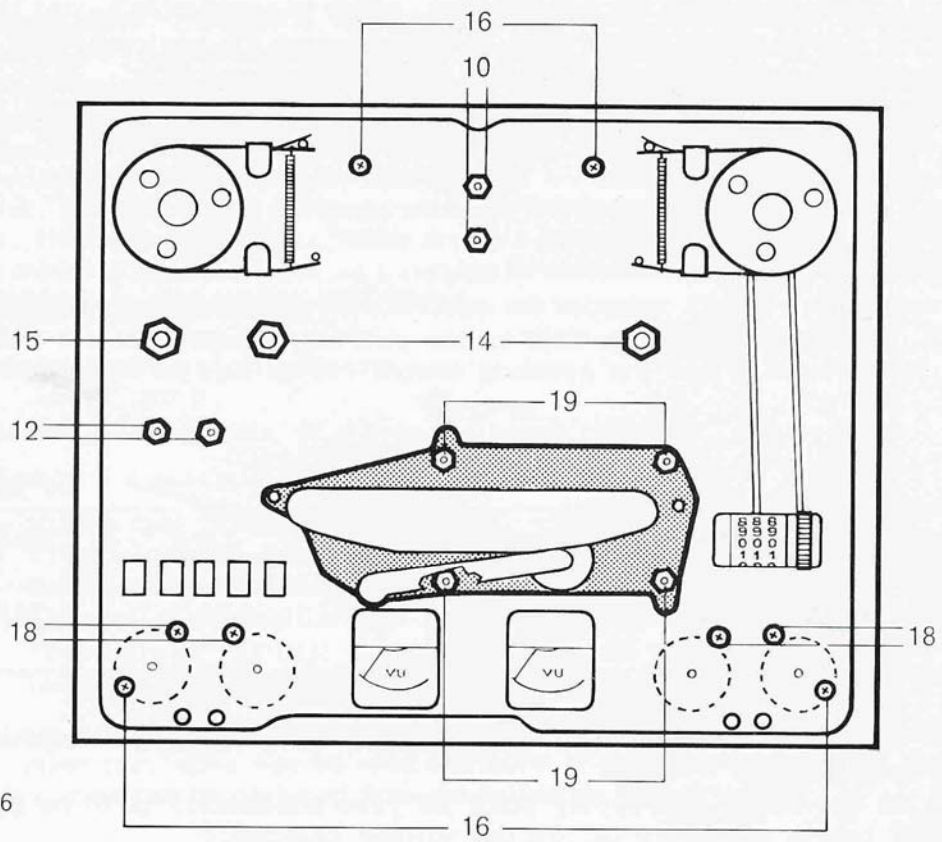
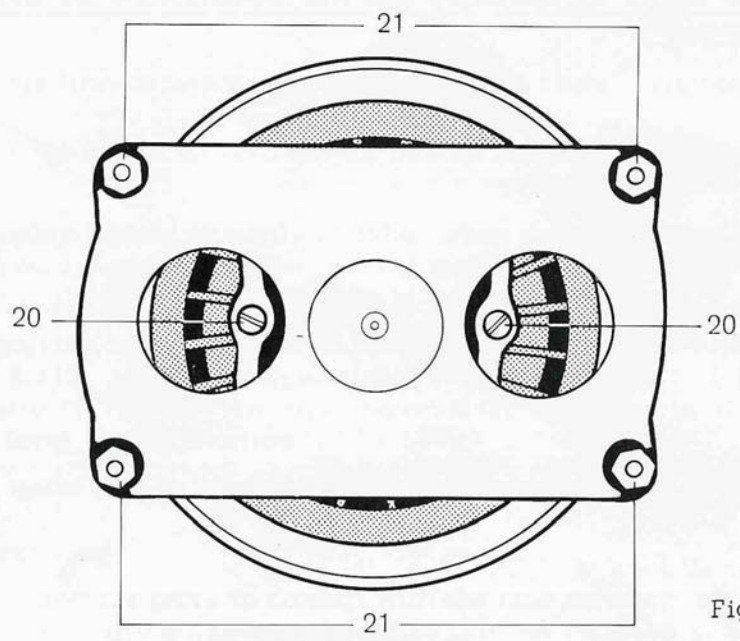

Fig. 6
Fig. 7
The pressure of the pinch roller can be measured by a gauge fixed to the pinch roller arm as close as possible to the spindle of the pinch roller (fig. 4). A constant tone tape should be played and the pinch roller withdrawn by the gauge until the note is heard to change. A reading in the region of 1.7 kg should be obtained. Adjustment to this value can usually be obtained by turning nut no 13 in fig. 5. Should this not provide the necessary amount of correction it is advisable to check the position of the solenoid no 11 in fig. 5 which will be correct when there is approx. 0.5 mm clearance at point A (fig. 5) with the solenoid energized. It is essential that the solenoid's slug fully bottoms in the energized position and when properly adjusted, there should be no movement of the slug when lifting the pinch roller off the capstan. Correct setting can be obtained by loosening the nuts (12 in fig. 6) and moving the solenoid in the required direction.
Conventional switch cleaners are not recommended for the high current spring contacts used in the REVOX, and where cleaning is necessary, the contacts should be polished clean. The interlocking bars and push-button shafts may require occasional greasing with molybdenum grease. Where a part of the assembly needs replacement, unscrew the four fixing screws, bend the pushbuttons to the right and ease the unit to a better working position. For better access to the switch assembly, the housing of the pinch roller solenoid should be removed by undoing the M 4 nuts (pos. 12 in fig. 6).
Having removed the chassis, as described in sect. 2.1. from the cabinet and the loudspeaker and panel, separate upper and lower chassis sections by undoing screws no 16 shown in fig. 6. Lift upper chassis without exerting excessive force, if necessary loosen the fixing screws of the selector switches (18 in fig. 6) to gain more freedom of movement.
Unscrew the capstan mounting nuts (19 in fig. 6) and remove the assembly downwards and forwards out of the chassis. The fixing screws 20 in fig. 7 on the flexible coupling are to be removed through the large holes in the capstan bearing plate. The motor mounting screws (21 fig. 7) should now be removed using REVOX's special 8 mm nut driver, after which the flywheel assembly can be separated from the motor.